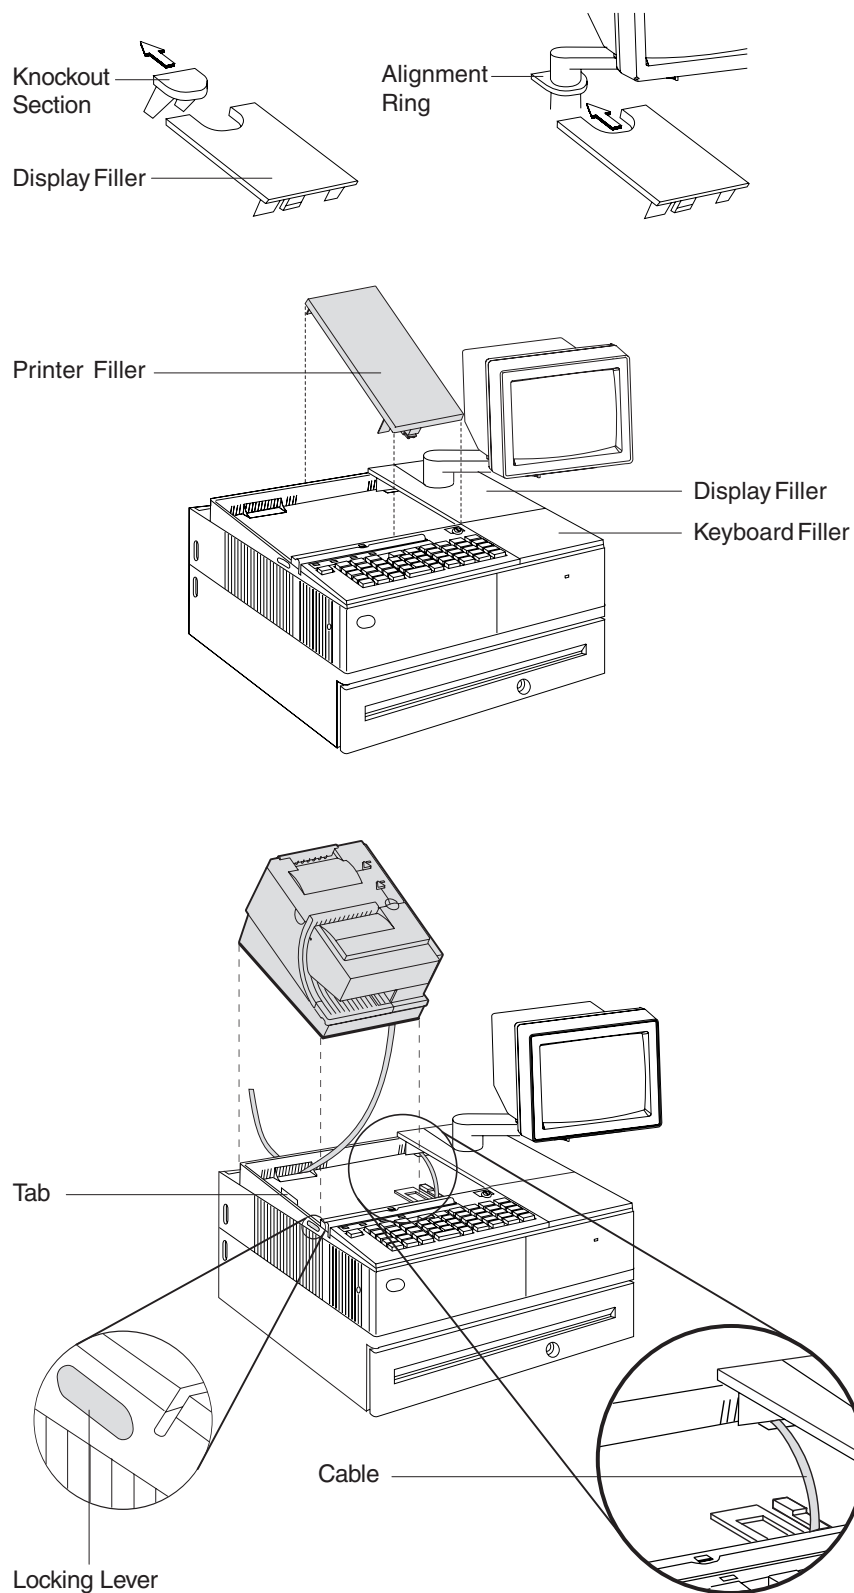

Figure 14. Installing the fillers for USB systems
2. Place the display filler appropriate for the video display on the system unit. **Do not remove** the knockout section unless you have an integrated video mount. See Figure 14 on page 28.
3. If you have a short keyboard, place the keyboard filler beside the keyboard. See Figure 14 on page 28.
4. Place the printer filler beside the display filler. **Make sure you route the keyboard cable to the side, as shown in Figure 14 on page 28.**